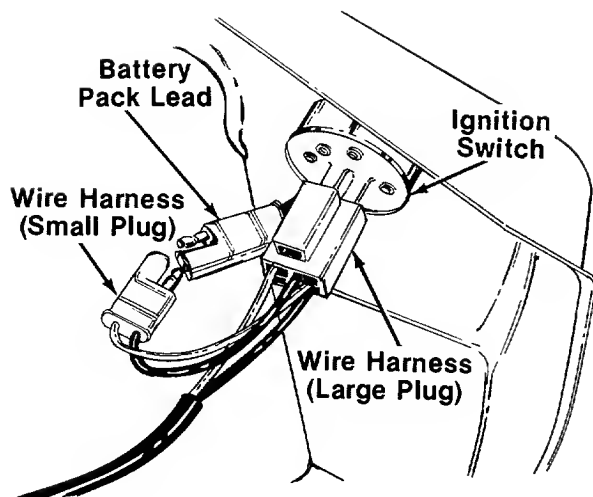

FIGURE 10.
16. Plug the large plug on the wire harness into the ignition switch. Plug the small plug on the wire harness into the battery pack lead. See figure 10.